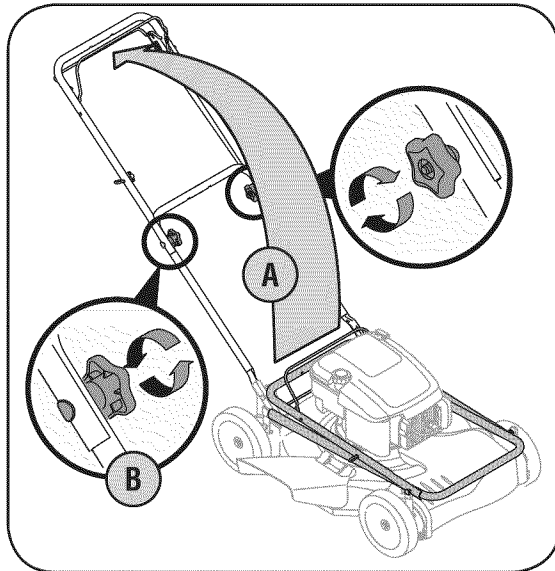

Figure 3-2: Unfold handle and tighten hardware.
- a. Lift the upper handle up from the folded position and pull it back to the extended position. See Figure 3-2. The handle should click into this position.